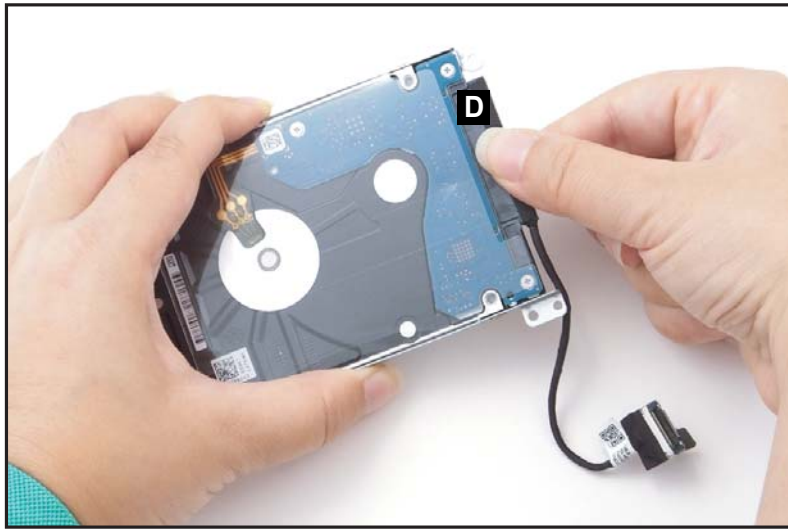

Figure 1-22. HDD Module Removal
4. Disconnect the HDD cable from the HDD module connector (D) (Figure 1-22).